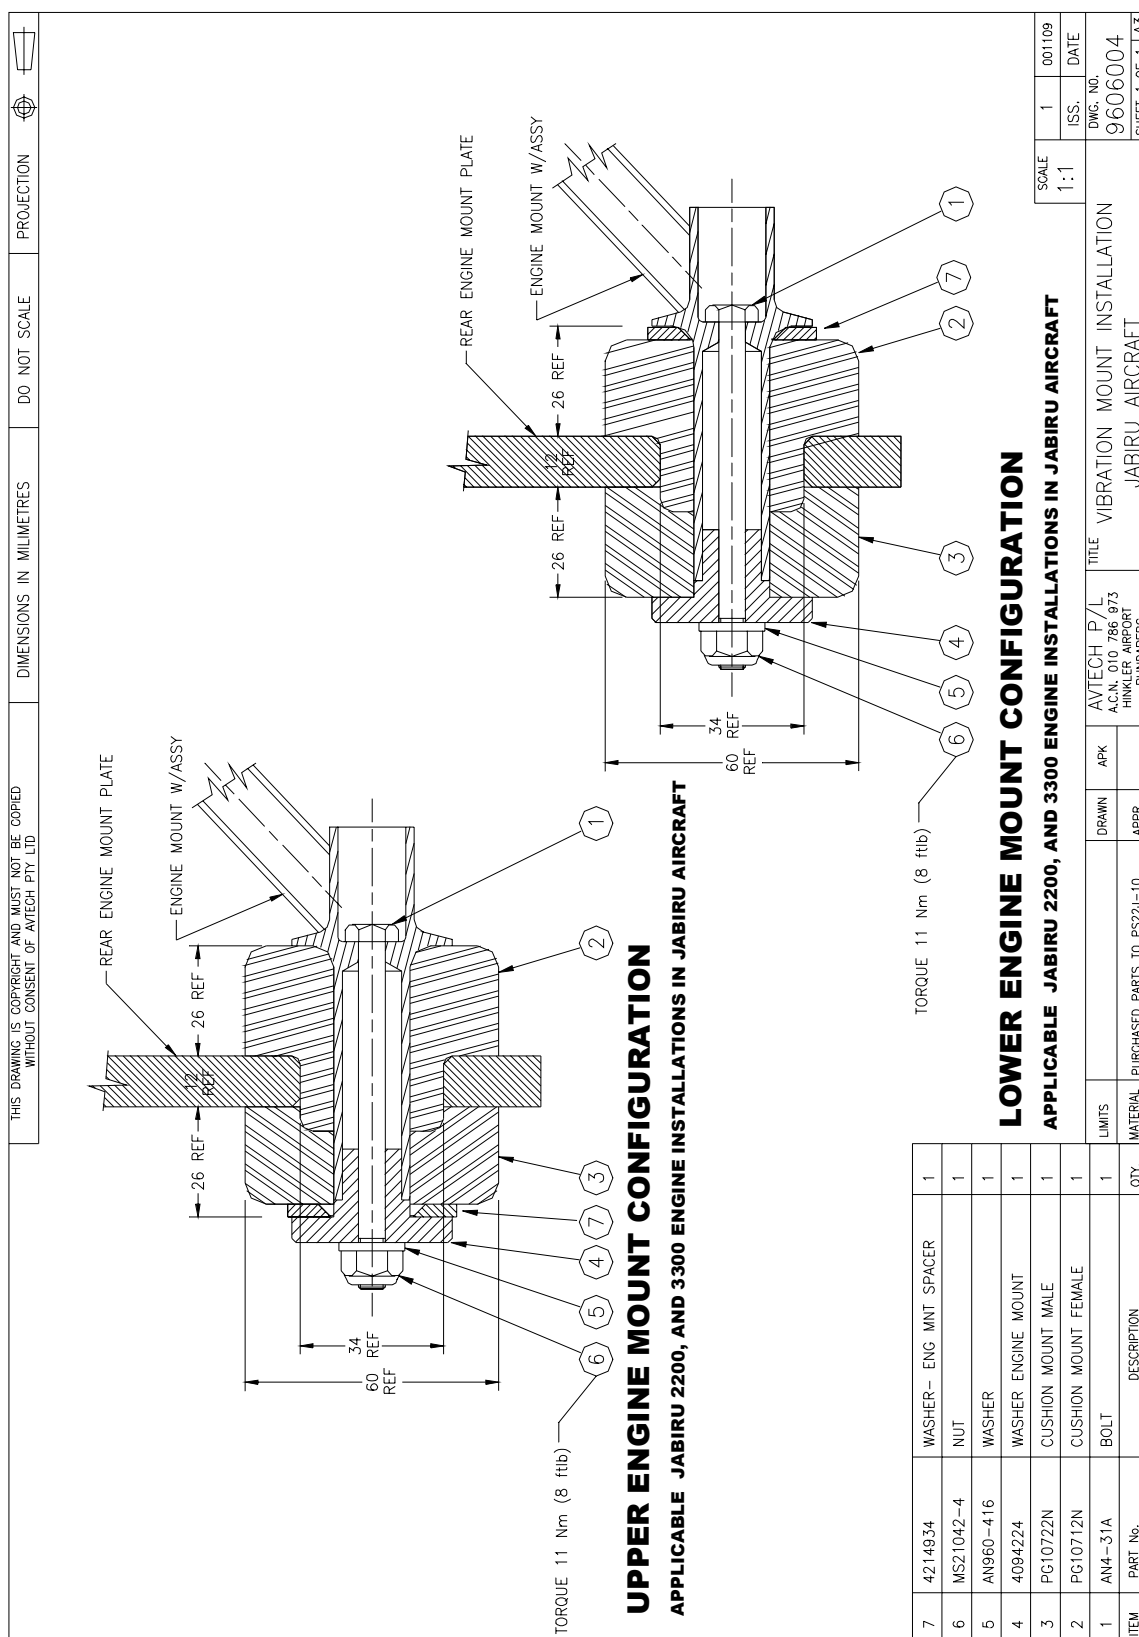

Figure 44. Engine Mount Detail
- Attach male engine mount rubbers to all engine mount pins on the engine mount. Place an AN4-31A bolt through each mount. Note that an engine mount spacer washer is fitted between the male rubber & the lower engine mount pins (Refer to Figure 44 below).
- The lower engine mount rubbers are assembled in the same way, except the male engine mount rubber is fitted to the engine mount pins first. Refer to Figure 44 below.